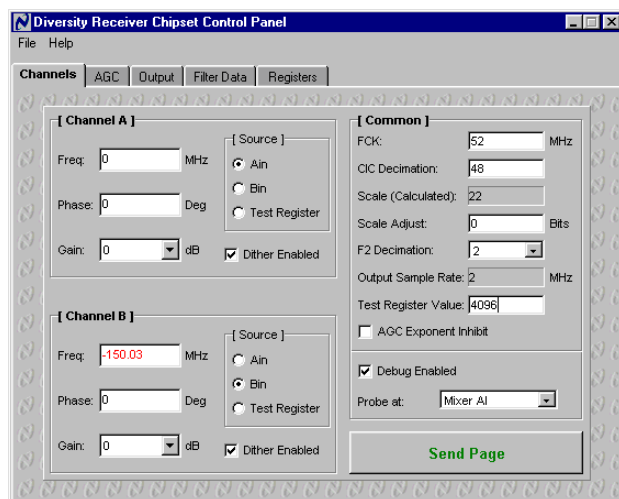

Figure 12 Screen configuration for step 11.
11. On the **Channels** page of the DRCS Control Panel, enter 0 for **Freq** within the **Channel A** box to set the frequency of the channel A NCO to zero. Also check **Debug Enabled** and select **Mixer AI** from the **Probe at** pulldown menu within the **Common** box. The screen should appear as in Figure 12 Click on the **Send Page** button. Immediately following this, a data transfer indicator box will appear on the monitor and all the LEDs on the DRCS Board will light momentarily.